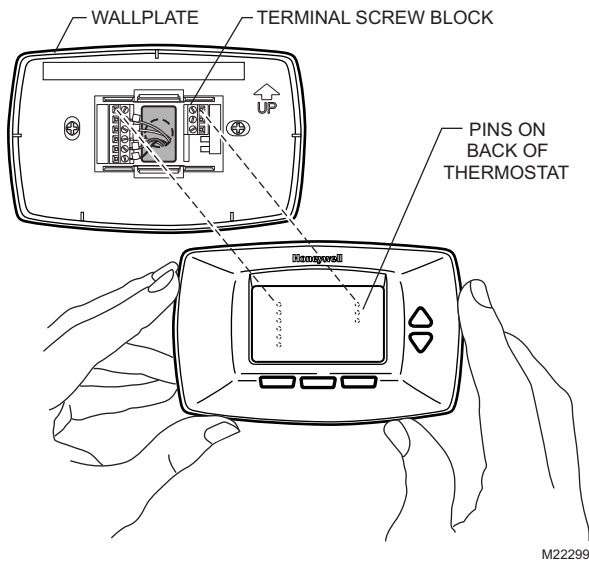

Fig. 39. Placing thermostat back onto subbase.
1. Remove the thermostat from the base by pulling it straight out. (See Fig. 39.)